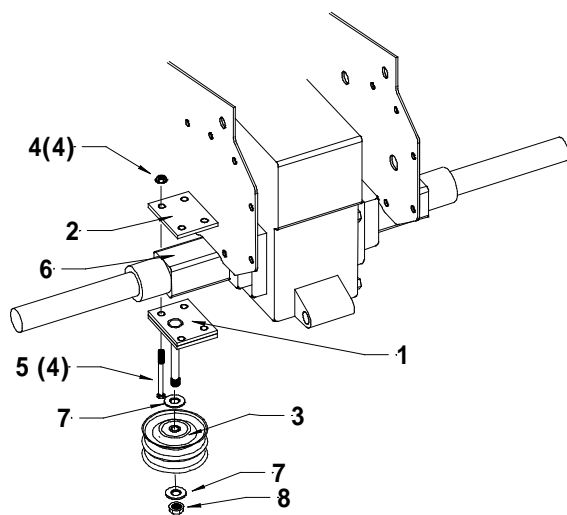

Figure 3
1. Install the mounting plate under the left side rear axle. Hold in place with fixation plate on top of axle and secure with four hex bolts 3/8 x 3 1/2" and flange nuts. Tighten loosely (fig. 3).
2. Slide plate to edge of square portion of axle. Tighten the bolts securely (fig. 3).
3. Install the double idler and hold in place with one flat washer on top of idler and one flat washer on bottom. Secure with lock nut (nylon). Tighten securely (fig. 3).
1. Remove the four bolts and detach the plate where R.O.P. is attached to the left side of the tractor's axle. Install the mounting plate where the original plate was installed with the same R.O.P. mounting bolts, lockwashers and nuts. Tighten securely (fig.3).
2. Install a double idler and hold in place with one flat washer on top of idler and one on bottom. Secure with lock nut (nylon) (fig. 3). Tighten securely.